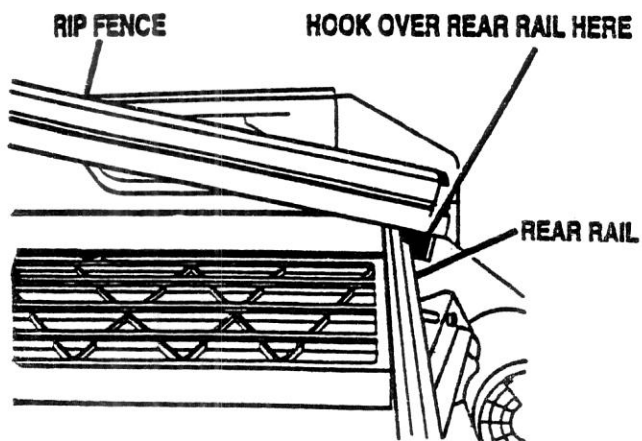

Fig. 18
See Figures 18, 19, and 20.
- Hook the back of the rip fence over the rear rail. Lower the front of the rip fence into the groove on the front rail. See Figure 18.